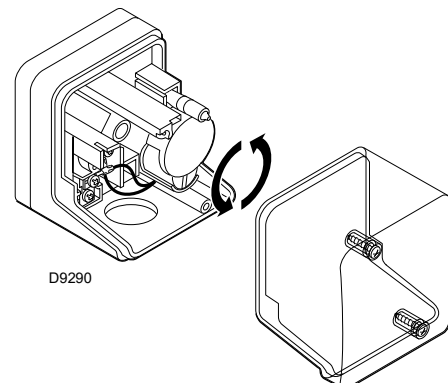

Fig. 40
- Adjust the minimum gas pressure (Fig. 40) switch to the start of the scale.
Adjust the minimum gas pressure switch (Fig. 40) after having adjusted the burner, the gas valves and the gas train stabiliser. With the burner operating at maximum output: